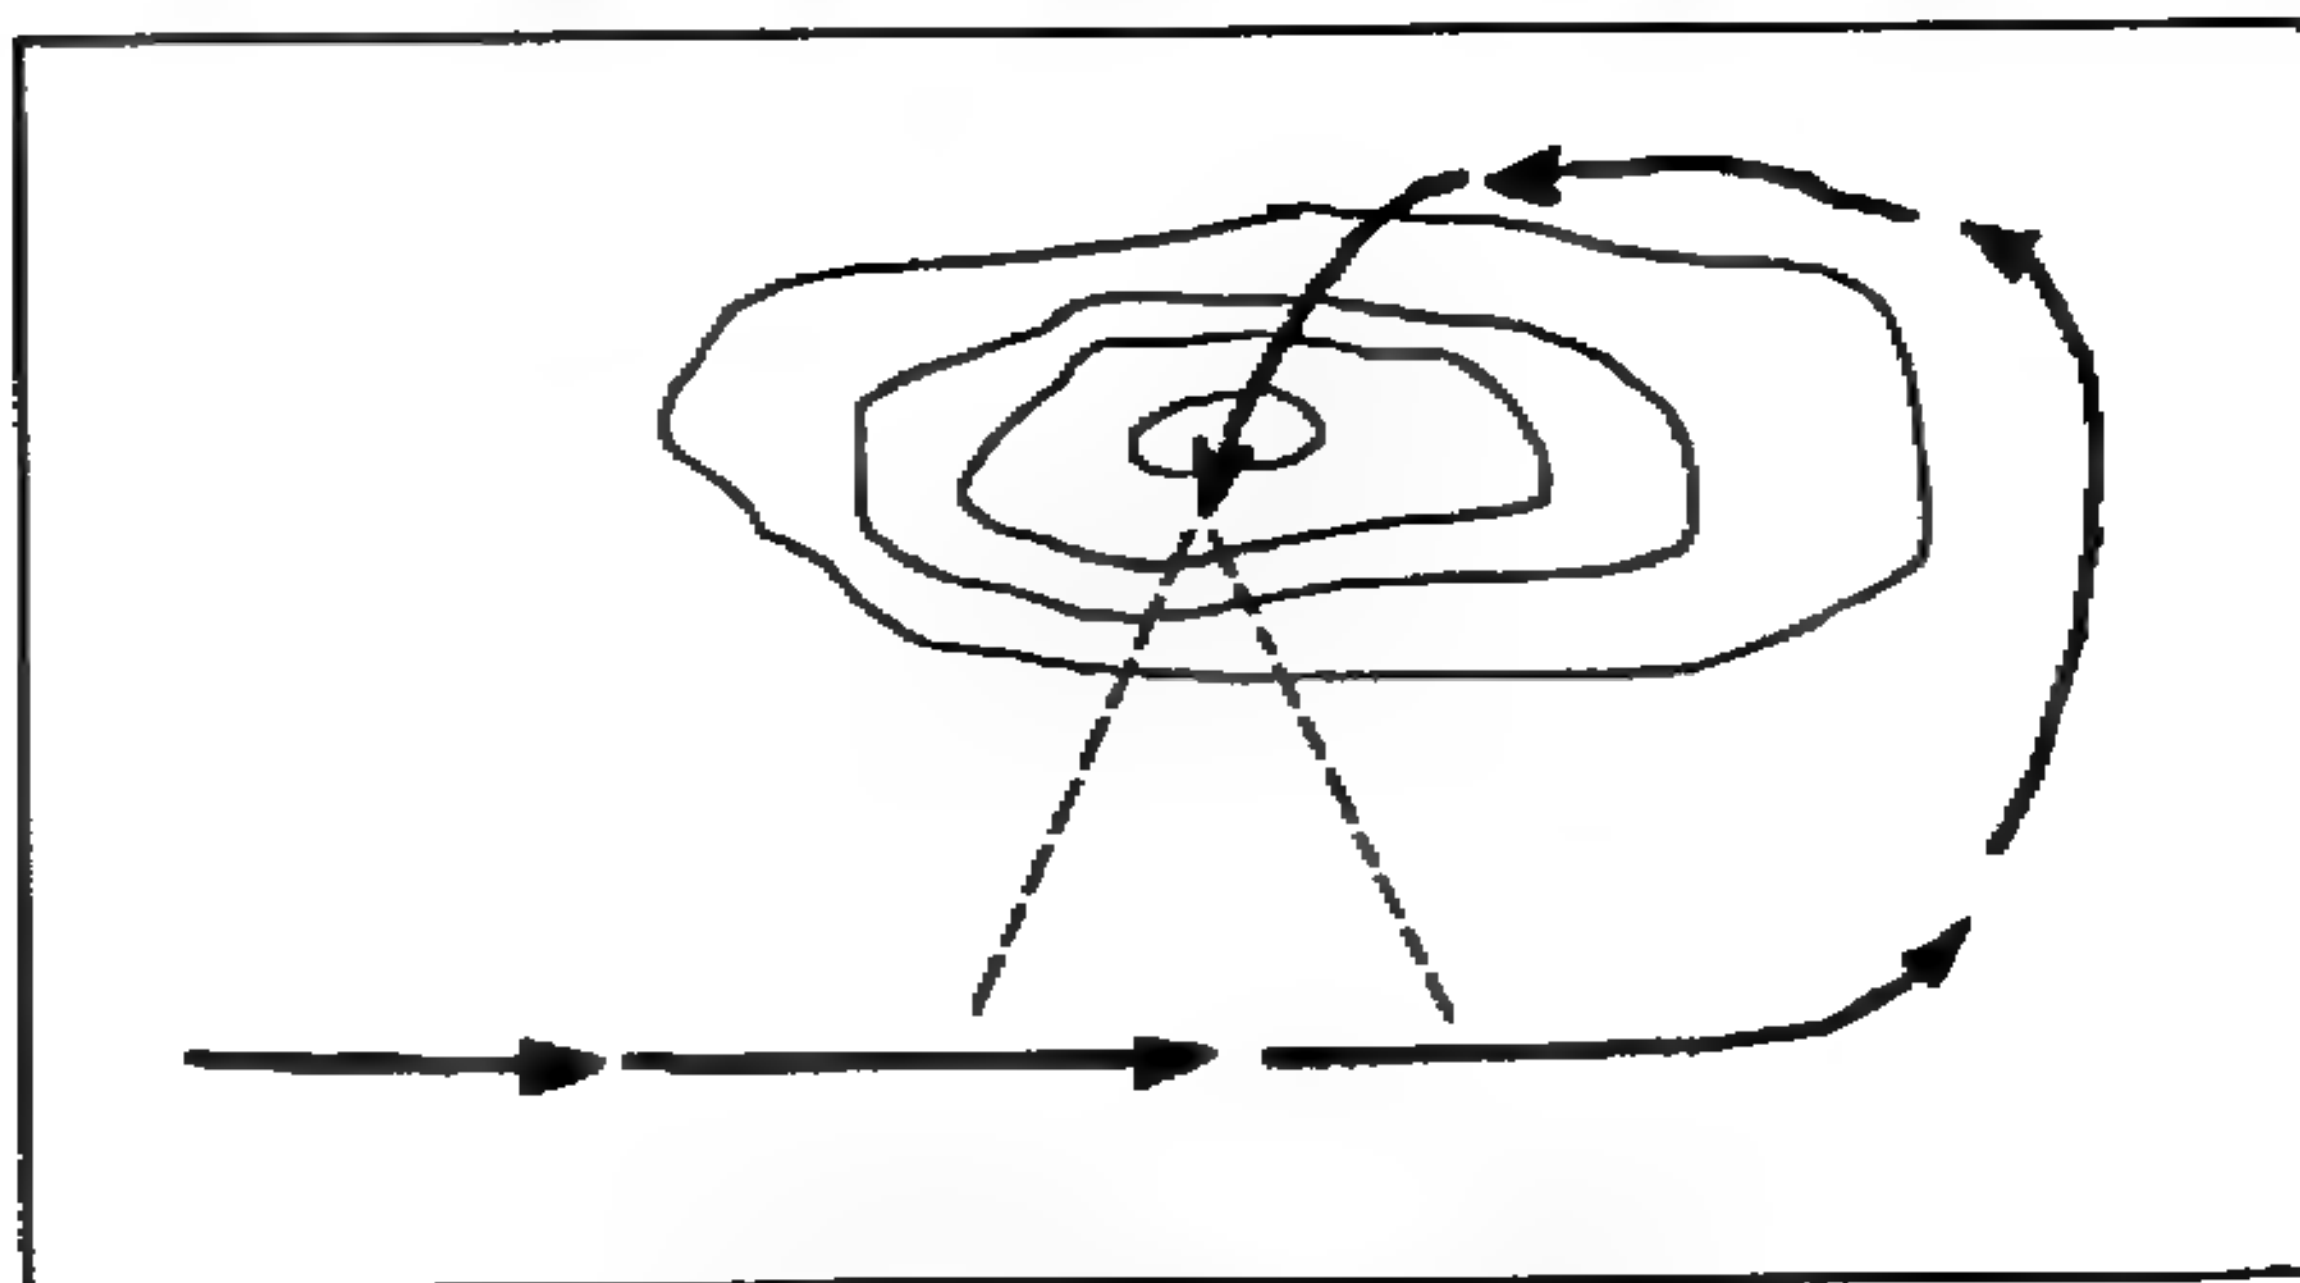

Figure 8-11. Fishhook.
f. **Fishhook.** The sniper team uses the fishhook technique to double back (Figure 8-11) on its own trail in an overwatch position. The sniper team can observe the back trail for trackers or ambush pursuers. If the pursuing force is too large to be destroyed, the sniper team strives to eliminate the tracker. The sniper team uses the hit-and-run tactics, then moves to another ambush position. The terrain must be used to advantage.